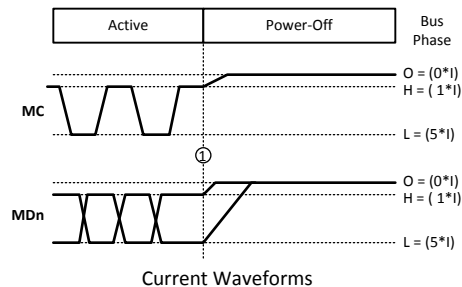

Figure 10. Bus Power Down Timing
(1) Typical values are given for V_{DDIO} = 1.8V and V_{DD} = V_{DDA} = 1.8V and T_A = 25°C.
(2) 1 UI is the serial data MD pulse width = 1 / 8xPCLK (3 MD lanes), 1 UI is the serial data MD pulse width = 1 / 12xPCLK (2 MD lanes)
(3) This is a functional parameter and is guaranteed by design or characterization.
(4) Enable Time is a complete MPL start up comprised of t₀ + t₁ + t₂ + t₃ + t₄.
(5) Guaranteed functionally by the I_{DDZ} parameter. See also Figure 10.
In the OFF phase, MPL transmitters are turned off with zero current flowing on the MC and MDn lines. Figure 10 shows the transition of the MPL bus into the OFF phase. If an MPL line is driven to a logical Low (high current) when the OFF phase is entered it may temporarily pass through as a logical High (low current) before reaching the zero line current state. The link may be powered down by asserting both the SER's and DES's PD* input pins (Low) or by stopping the PCLK (DES dependant). This causes the devices to immediately put the link to the OFF Phase and internally enter a low power state.